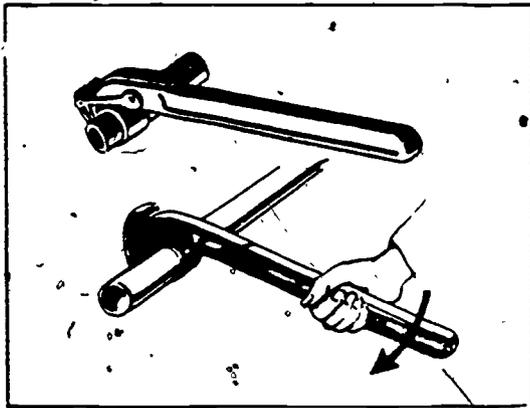

Figure 3-44. Strap wrench.
*Strap wrench.* The strap wrench, illustrated in figure 3-44, is used on brass, copper, and chromium-plated pipes and fittings, because it will not scratch or mar the finished surfaces. It has a thick canvas strap instead of a chain or jaws to grip the pipe. Rosin is applied to the surface of the strap wrench to keep the strap from slipping. Keep the strap wrench clean. Occasionally it is necessary to replace the strap in the wrench.